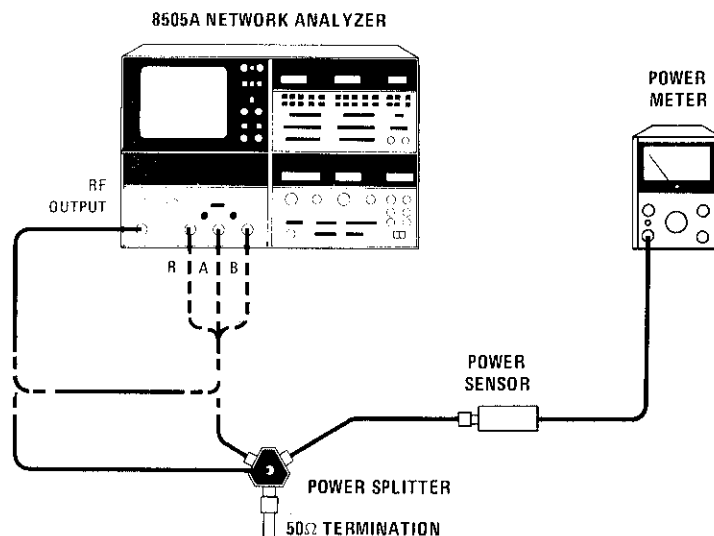

Figure A4-9. Absolute Magnitude Frequency Response Test Setup
- d. Connect equipment as shown in Figure A4-9, with RF OUTPUT to center of Power Splitter and one leg of power splitter to port "R" and the other leg to Power Sensor and Power Meter.